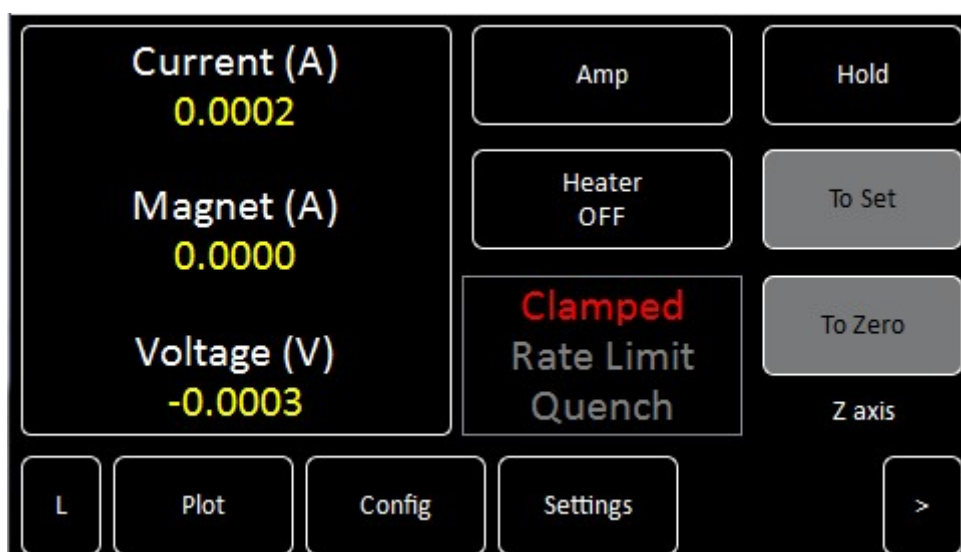

Figure 6. Mercury iPS home screen for the standard Solenoid configuration.
- 3 The **MercuryIPS** initialises, then the **Home** page appears on the touch screen (Figure 6).